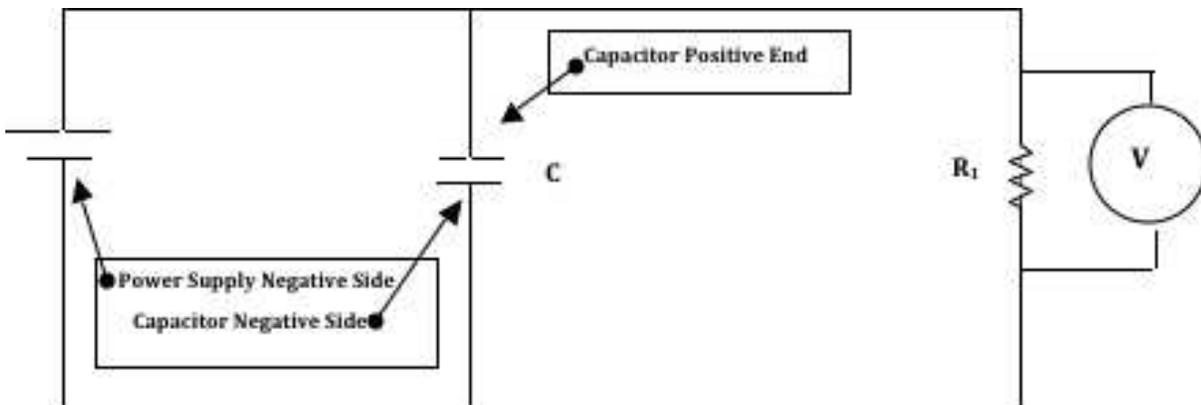

Figure 20.11: RC Circuit Schematic
Refer to Fig. 20.11
- Construct the circuit shown in Fig. 20.11. Connect, but do not plug in, the power supply.